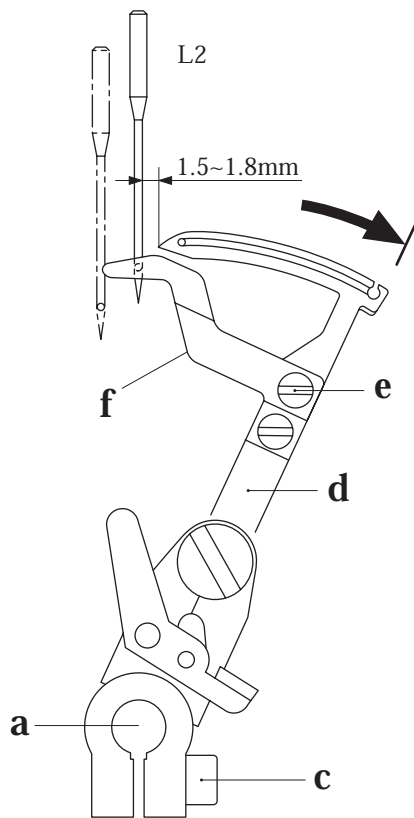

Fig.1
3. **Angular position of chain looper:** Insert a new needle (No 90) in "**L2**". Check height and orientation of needle bar in page 5. Bring chain looper to its far right swing position. Check distance from point of chain looper to chain needle with thickness of gauge. If necessary, loosen screw "**c**" just enough to adjust the chain looper arm "**d**" angularly to obtain a clearance of **1.5 to 1.8mm**. Then tighten screw "**c**".(Fig.1)